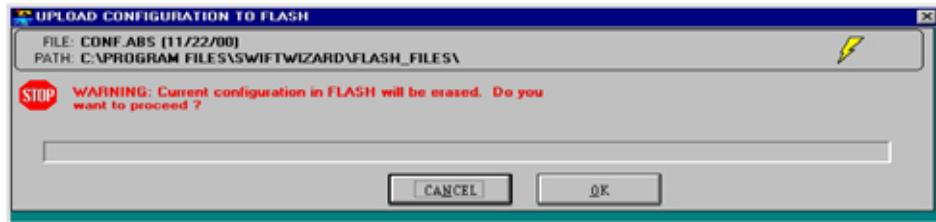

Figure 14: Flash Upload Dialog Box
5. When the correct drive and directory have been selected, click the file containing the car software (or Meridia configuration data) from the file list. Note that the information about the file in the top right area includes the message "Not a valid Parameter file". This is because the same Window is used to select Parameter files, for a different purpose, as well as these Flash files. Click the UPDATE CONTROLLER SOFTWARE button (note that the button still has this name even if it is only Meridia configuration data, in which case software will not actually be changed) and the Flash update information/confirmation Window (Figure 14) will appear.